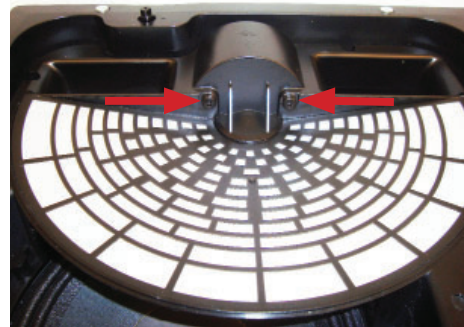

Figure 14
3.2 Remove the two screws indicated by the red arrows shown in figure 14. These screws secure the front of the driver flange bracket to the baffle.